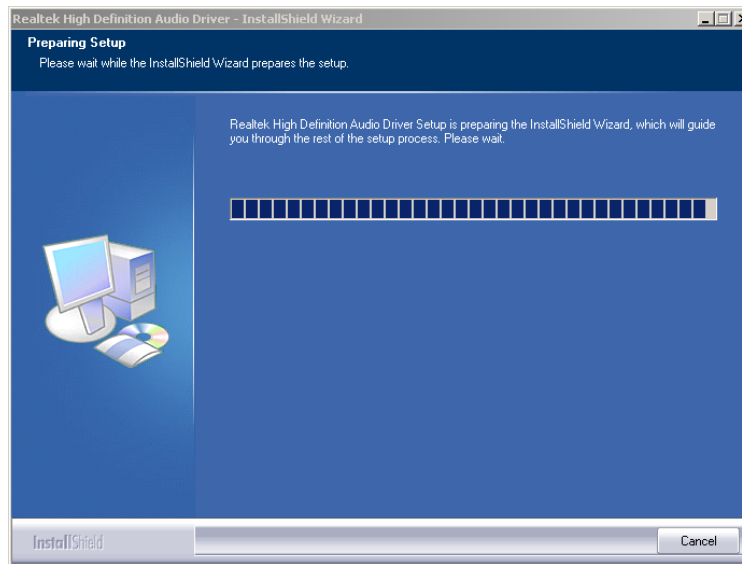

Figure 6-20: Preparing Setup Screen
Step 4: The **InstallShield Wizard** is prepared to guide the user through the rest of the process (**Figure 6-20**).